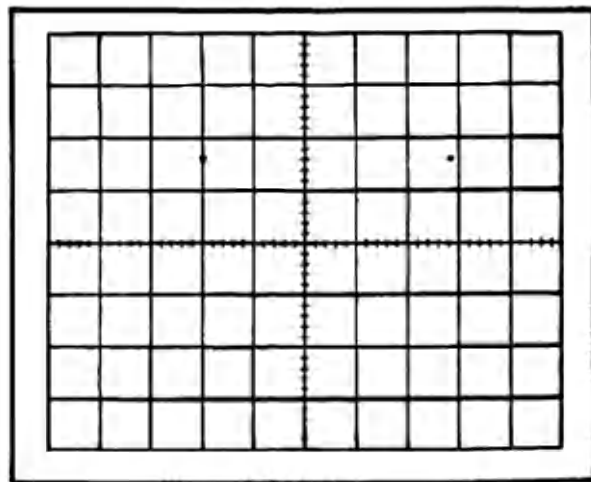

Fig. 6-53. Typical CRT display when checking external horizontal deflection factor.
- e. CHECK—CRT display for horizontal deflection between 3.75 and 6.25 divisions (10 volts/division, $\pm 25\%$; see Fig. 6-53).